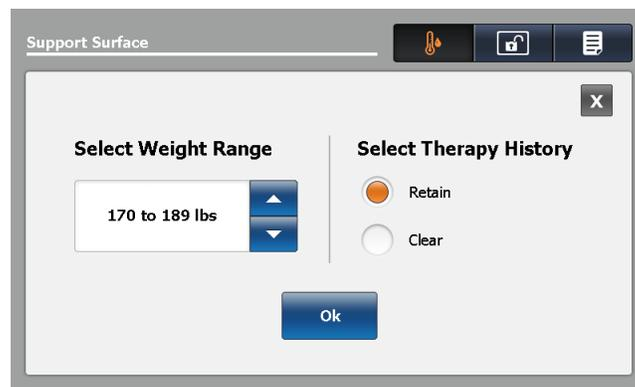

Figure 48: Surface setting screen
1. Tap the up and down arrows to select the desired weight range (Figure 48 on page 60).
Tap **Retain** to keep therapy history (see Figure 48 on page 60).
Tap **Clear** to delete therapy history (see Figure 48 on page 60).